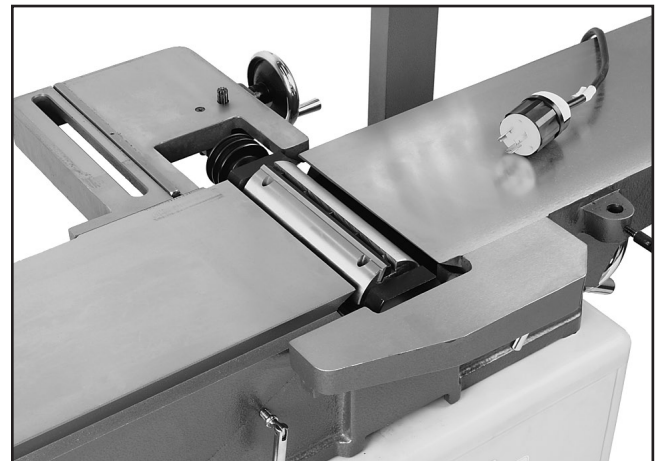

Figure 2. Joints disassembly Steps 1-4.
4. Lower both beds to make enough room for the cutterhead to come out, as shown in **Figure 2**.